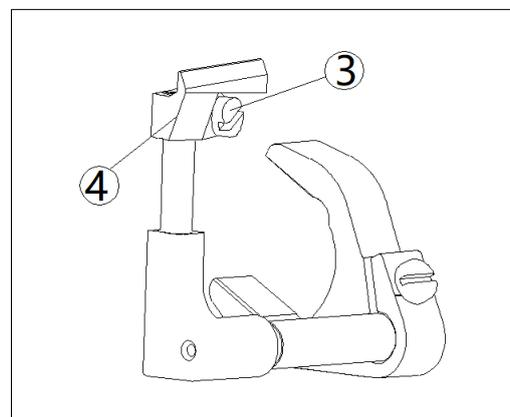

Figure 7-21
(2) Loosen the fixing screw③. (Figure 7-21)
(4) Temporarily tighten the fixing screw③. (Figure 7-21)